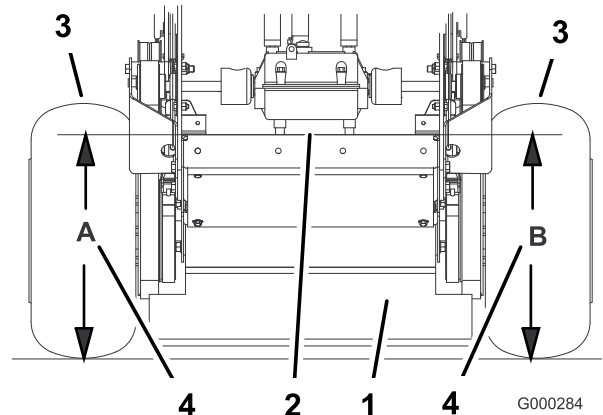

Figure 63
4. Measure the engine deck height at location **A** (Figure 63).
5. Measure the engine deck height at location **B** (Figure 63).